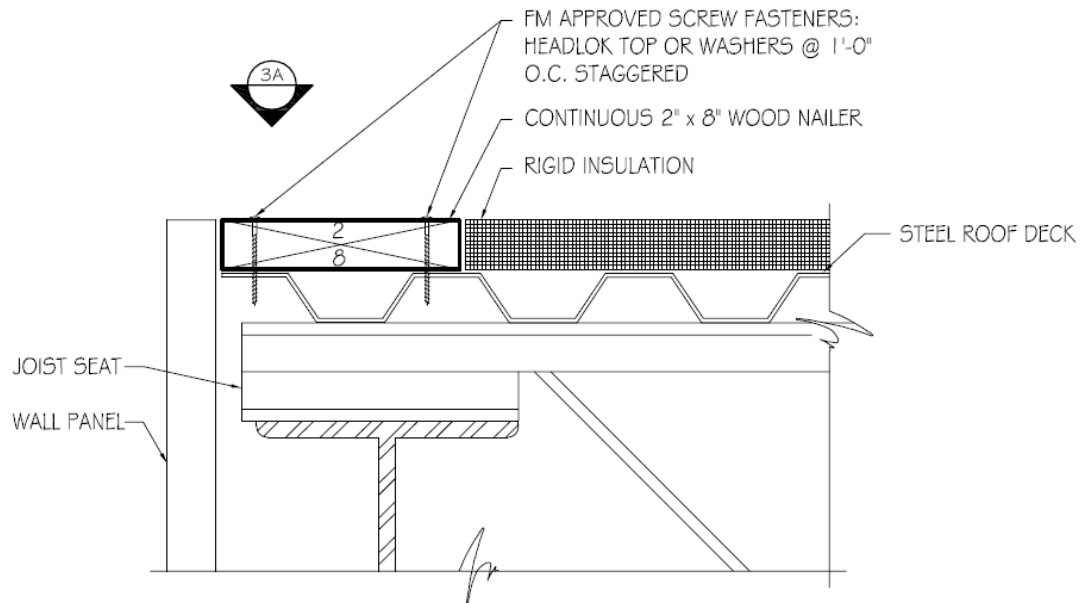

FIGURE 2 - ROOF EDGE WOOD BLOCKING - SCREW FASTENER ANCHORAGE
- Penetration of the fasteners should be to the top flutes only. The fasteners must be staggered as shown in **Figure 2**. Consult the Steel Deck Institute for separation requirement if treated nailers are used.
- On wood decks, the staggered fastening pattern with galvanized steel screws should be utilized as shown in **Figure 2**.